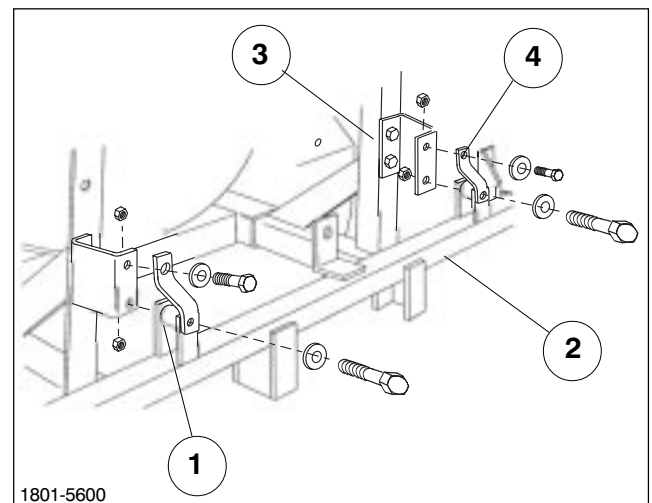

FIG. 12
13. Assemble center Boom to Boom Mounting Brackets. Place Spacer Tube between tabs on Center Boom. Attach center Boom and Boom Straps to Boom Mounting Brackets using two (2) 1/2 x 2 3/4" Cap Screws; attach Boom Support Straps to Boom Mounting Brackets using two (2) 1/2" x 1 1/4" Cap Screws with four (4) 1/2 Locknuts and four (4) 1/2" Flat Washers. (See FIG. 12)